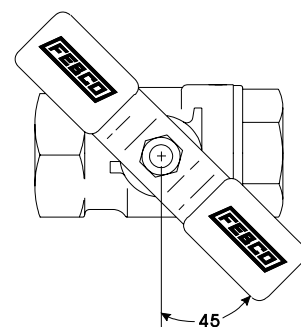

Figure 5
1. After the draining the backflow prevention assembly, position all ball valve shutoffs and test cocks in a half-open, half-closed 45 degree position. (See Figure 5.)